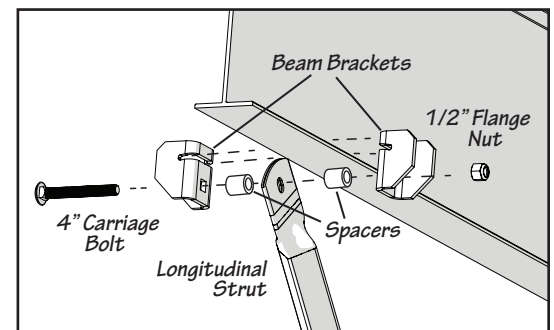

Fig. 3-3
- Extend the top of the longitudinal strut (smaller, pressed flat) upward and position it between the two beam brackets as shown in Fig.3-3